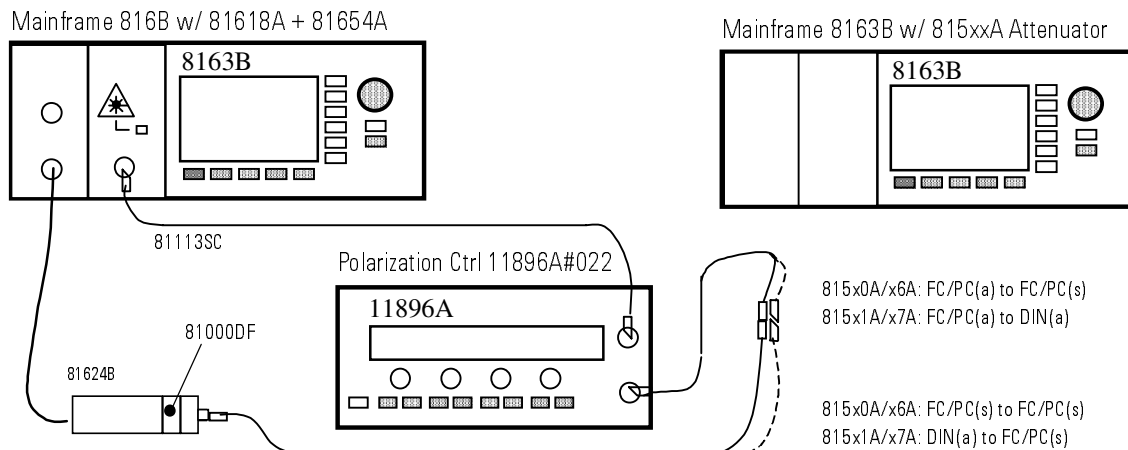

Figure 11 Insertion Loss Reference Setup
- 3 Connect the equipment as shown in Figure 11.